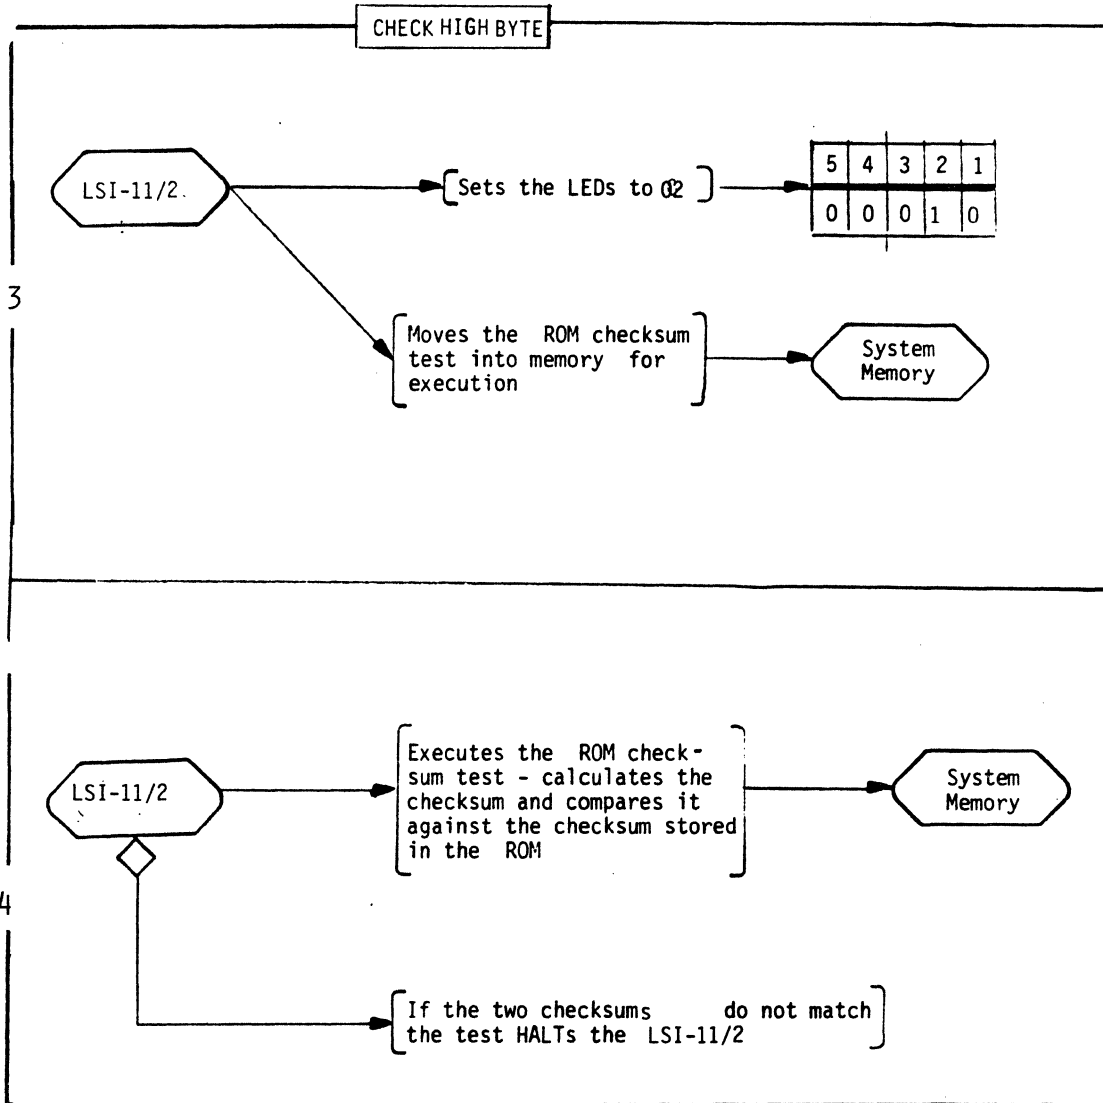

Fig. 3-12. Check high byte.
3. CHECK THE HIGH BYTE (Fig. 3-12). The test sets the LEDs to 02 and moves the ROM checksum test into system memory.